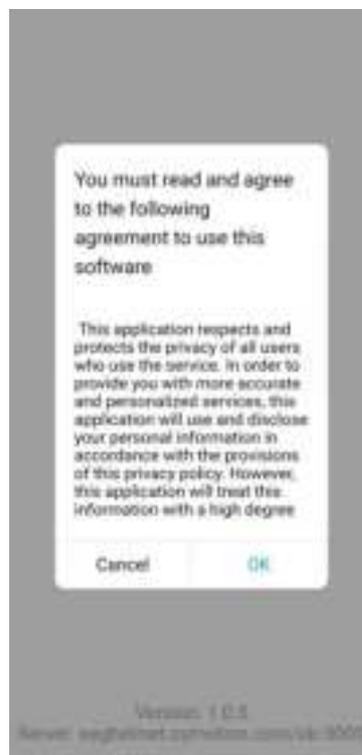

Figure 6.2.2-1
- 2) Run the EEG Helmet APP, enter the startup page, click OK to enter the device search page, as shown in Figure 6.2.2-1.
- 3) On the " **Find Devices** " page of the EEG Helmet APP, click the icon  to find the device, as shown in Figure 6.2.2-2. Find the OB3000 device in the device list and click